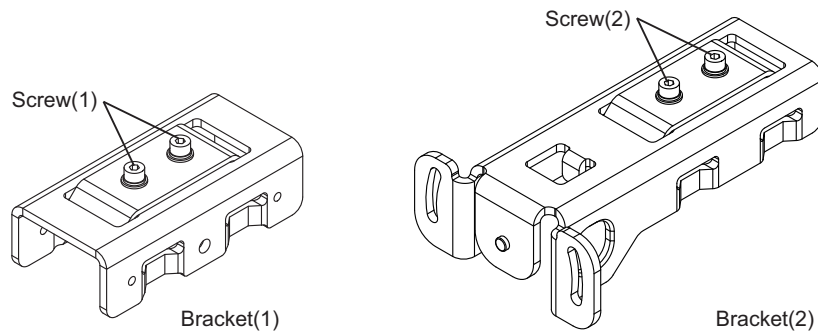

Fig. 1
- Loosen the Screw(1) (hexagon socket head cap screw (M4x8)) of Bracket(1) and the Screw(2) (hexagon socket head cap screw (M4x8)) of Bracket(2). (Fig. 1)